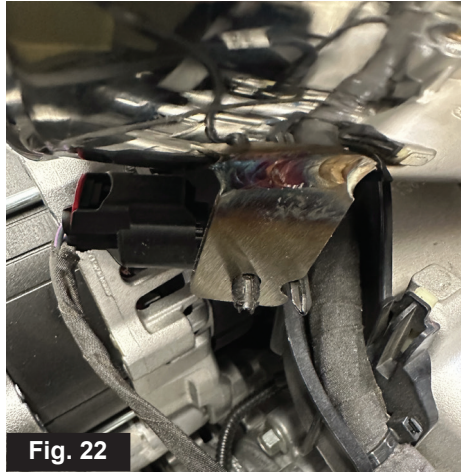

Fig. 22
- Clip the EGT sensor module to the welded bracket at the bottom of the Turbo Inlet as shown in. (Fig. 22)